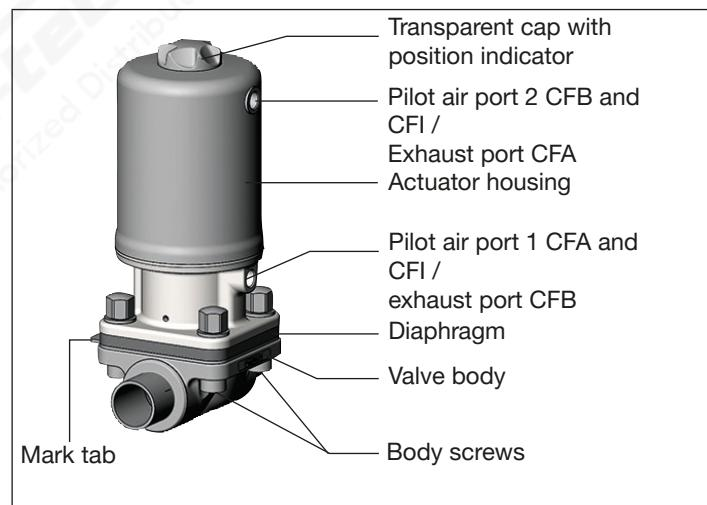

Fig. 30: Maintenance
**The mark tab of the diaphragm must be perpendicular to the flow direction (see "Fig. 30").**
The mark tab of the diaphragm must be perpendicular to the flow direction (see "Fig. 30").